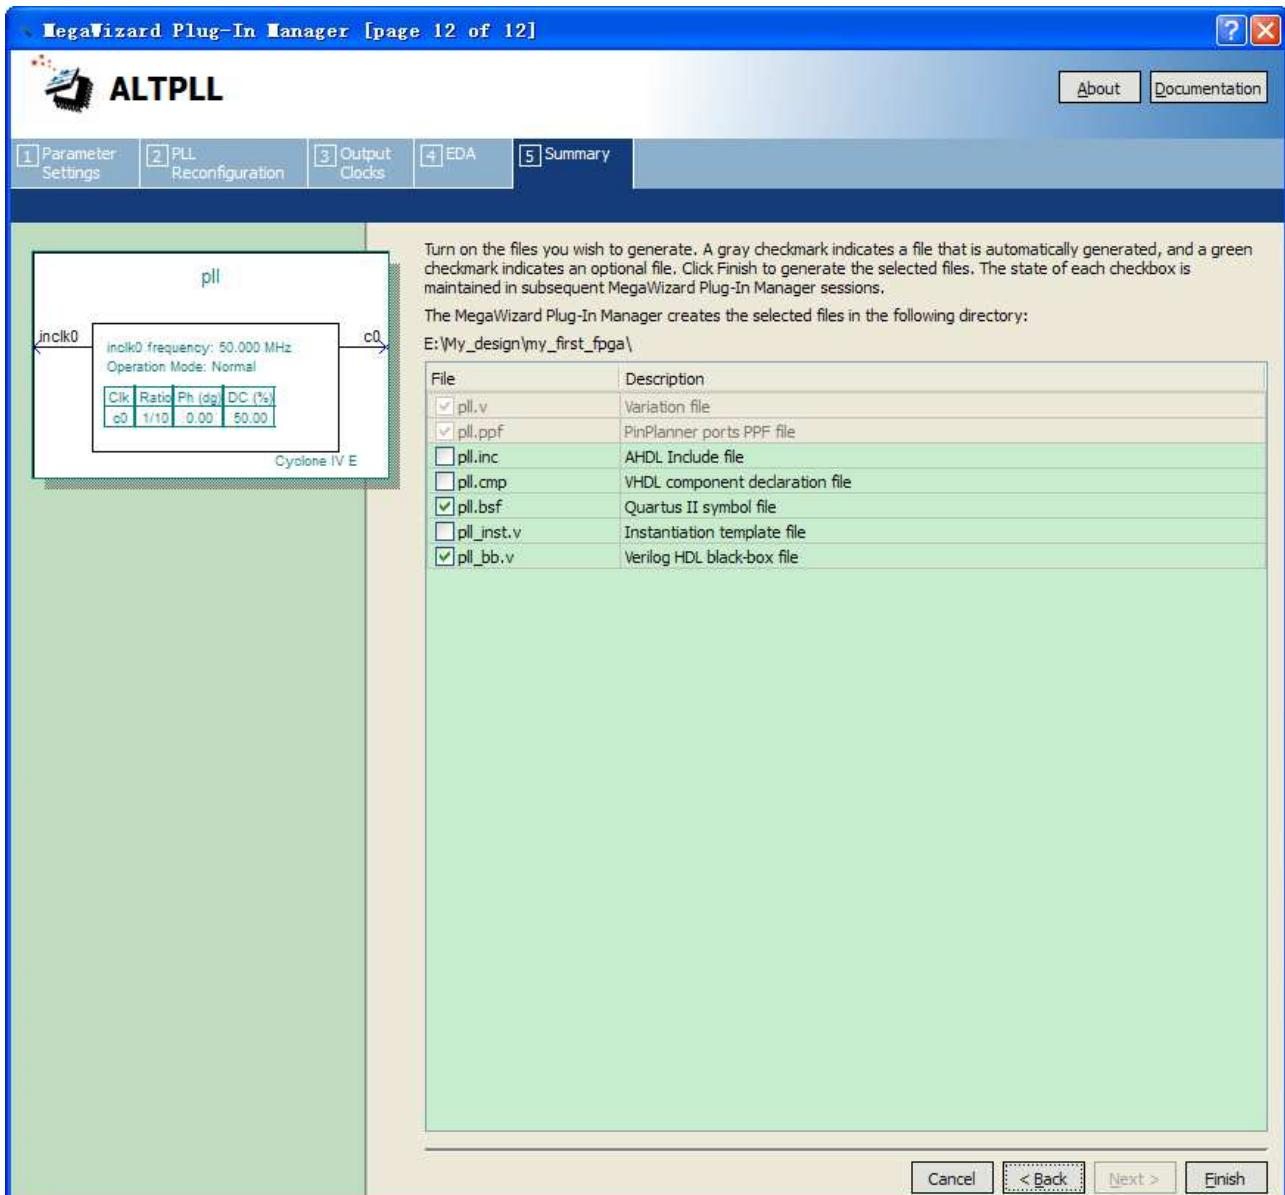

Figure 6-24 Wizard-Created Files
10. The wizard displays a summary of the files it creates (see **Figure 6-24**). Select the **pll.bsf** option and click **Finish** again.